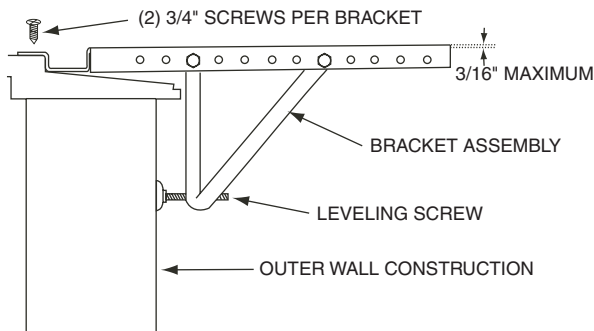
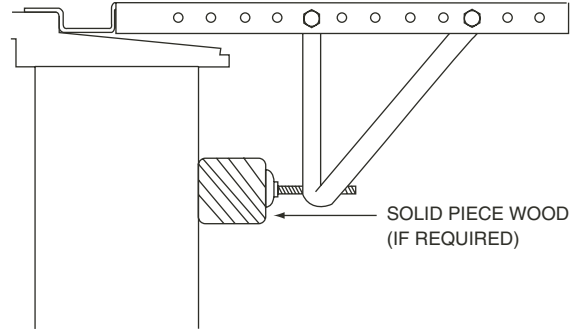

FIGURE 10 — BRACKET LOCATION AND INSTALLATION
FIGURE 11 — FIELD-SUPPLIED WOOD SHIM
11. Test the bracket assembly in the window. See Fig. 10. Adjust the location of the angle brackets if necessary. If location of angle brackets is correct for installation, tighten bolts on assembly. Leveling screws should touch the outside wall. If leveling screws are too far away from wall, it may be necessary to shim the area with a solid piece of wood. See Fig. 11.
13. Place a carpenter's level on the bracket assembly. Turn the leveling screw on the bracket assembly until the bracket is slightly tilted down. A slight pitch will be needed for condensate run off. The maximum pitch angle should not exceed $\frac{3}{16}$ inch. See Fig. 10.